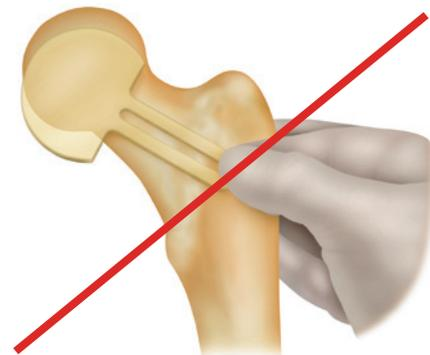

Figure 6: Varus and inferior placement should be avoided
**Note:** Care should be taken to avoid varus and inferior placement of the template as this would lead to inappropriate implant placement (Figure 6).